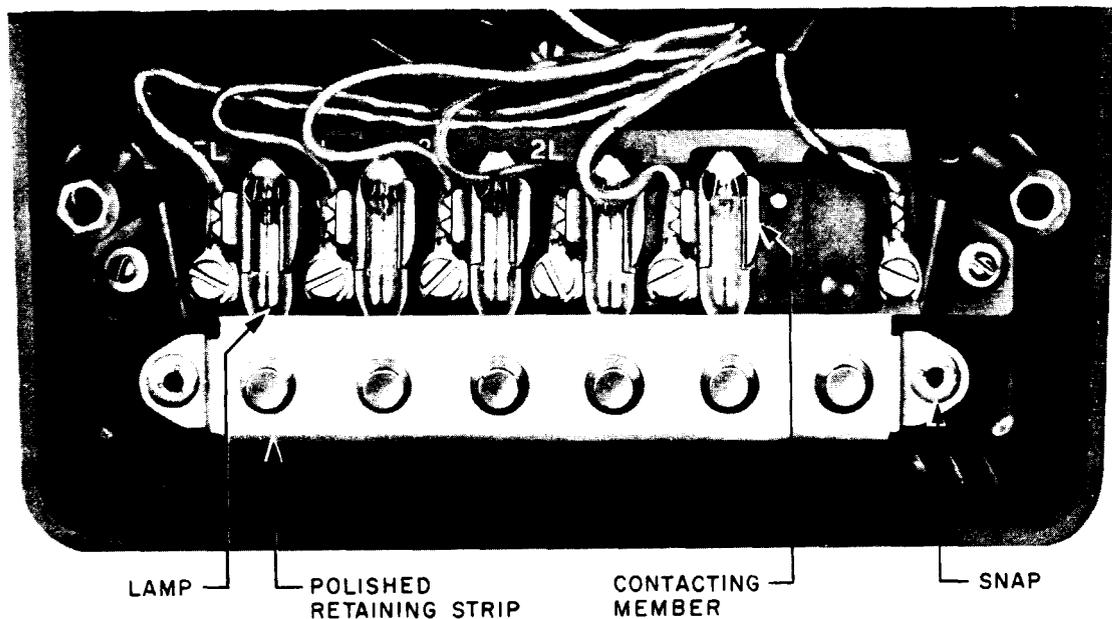

Fig. 1 — Button and Lamp Assembly
3.02 Access to push buttons and collars may be obtained by opening set and removing button-retaining strip (Fig. 1).
- Position each lamp near its associated button. Spring tension should be adequate to hold lamp in desired position (Fig. 1).